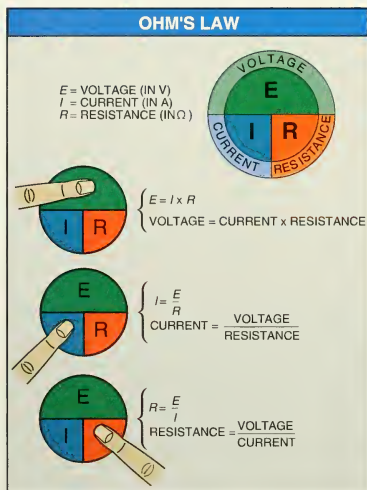

Figure 15-3. Ohm's law is the relationship between voltage, current, and resistance in a circuit.
Ohm's law is the relationship between voltage (E), current (I), and resistance (R) in a circuit. Ohm's law states that current in a circuit is proportional to the voltage and inversely proportional to the resistance. If the resistance in a circuit remains constant, a change in current is directly proportional to a change in voltage. If voltage in a circuit remains constant, current in a circuit decreases with an increase in resistance, and current in the circuit increases with a decrease in resistance. Using Ohm's law, any value in this relationship can be found when the other two are known. The relationship between voltage, current, and resistance may be visualized by presenting Ohm's law in a pie chart form. See Figure 15-3.